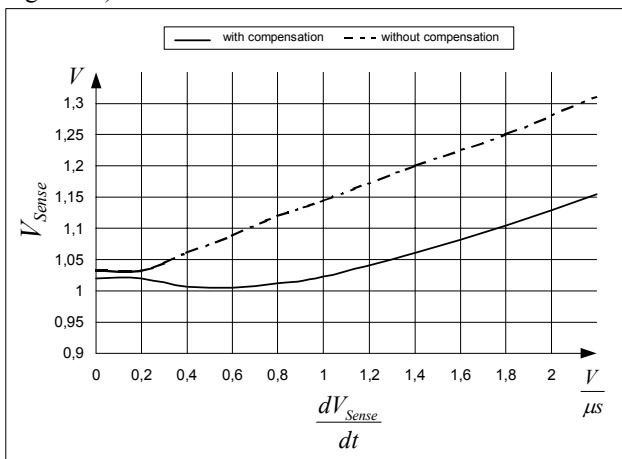

Figure 12 Overcurrent Shutdown
E.g. $I_{peak} = 0.5A$ with $R_{Sense} = 2$. Without Propagation Delay Compensation the current sense threshold is set to a static voltage level $V_{csth} = 1V$. A current ramp of $dI/dt = 0.4A/\mu s$, that means $dV_{Sense}/dt = 0.8V/\mu s$, and a propagation delay time of i.e. $t_{Propagation\ Delay} = 180ns$ leads then to an I_{peak} overshoot of 14.4%. By means of propagation delay compensation the overshoot is only about 2% (see Figure 12).